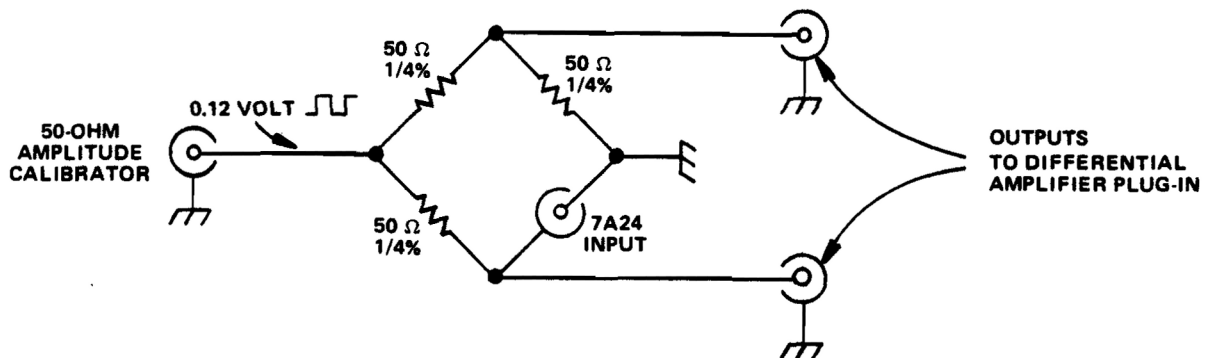

Fig. 5-1. Test circuit for Input Resistance Check/Adjust.
2Any method of accurately ( $\pm 0.5\%$ ) measuring resistance may be substituted for this piece of equipment and the test circuit shown in Fig. 5-1.
- b. Connect the test circuit, as shown in Fig. 5-1, to the CH 1 input.